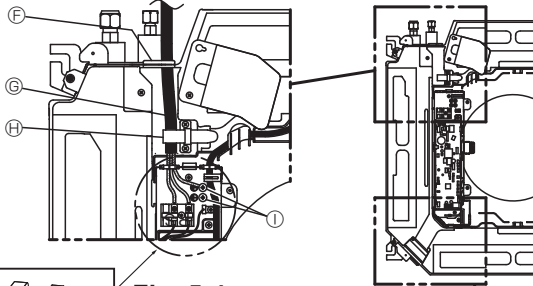

Fig. 5-4
5. Connect the cables securely to the terminal boards. (Fig. 5-4, 5-5)
6. Secure the power cable with the cable strap on the unit. (Fig. 5-4)
- (A) Electrical wiring service panel
- (B) Screw
- (C) Electrical box cover
- (D) Temporary hook for the electrical box cover
- (E) Slide direction of the electrical box cover
- (F) Cable entry (power cable)
- (G) Power cable
- (H) Secure with the cable strap